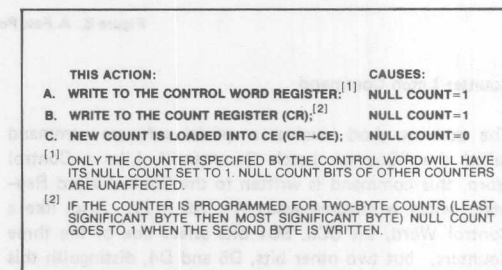

Figure 10. Null Count Operation
NULL COUNT bit D6 indicates when the last count written to the counter register (CR) has been loaded into the counting element (CE). The exact time this happens depends on the Mode of the counter and is described in the Mode Definitions, but until the count is loaded into the counting element (CE), it can't be read from the counter. If the count is latched or read before this time, the count value will not reflect the new count just written. The operation of Null Count is shown in Figure 10.